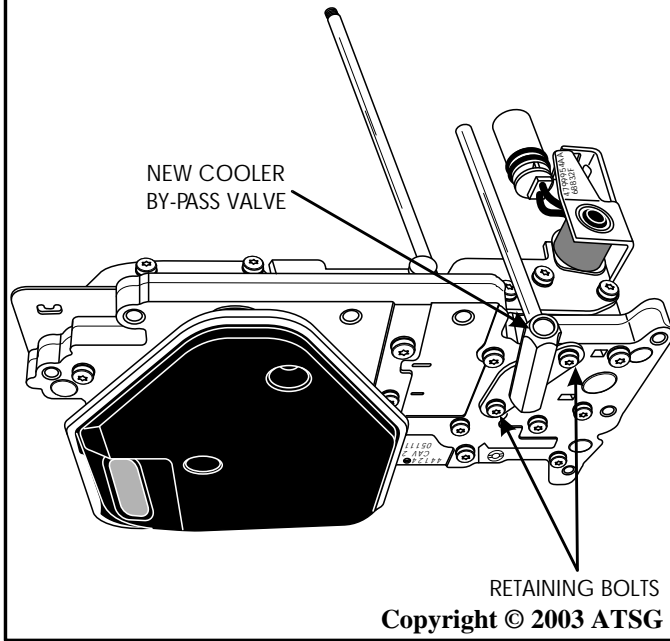

Figure 94
- If you have a mid 1999 or later model, there will be an added cooler by-pass valve assembly on the valve body, as shown in Figure 94, that must also be removed.
The Chrysler 31TH (A670) transaxle has been revised to include a cooler by-pass system and was changed during the 1999 model year as a running change (See Figure 94).
The transfer plate has a drilled through hole and a pocket to accept the by-pass valve seal, and two added screw holes to accommodate the added cooler by-pass valve assembly (See Figure 94).
The by-pass valve assembly consists of a spring loaded ball inside of a body/tube that is attached to the transfer plate with two new screws and inserted into the new case lube circuit hole, as shown in Figures 94 and 95.